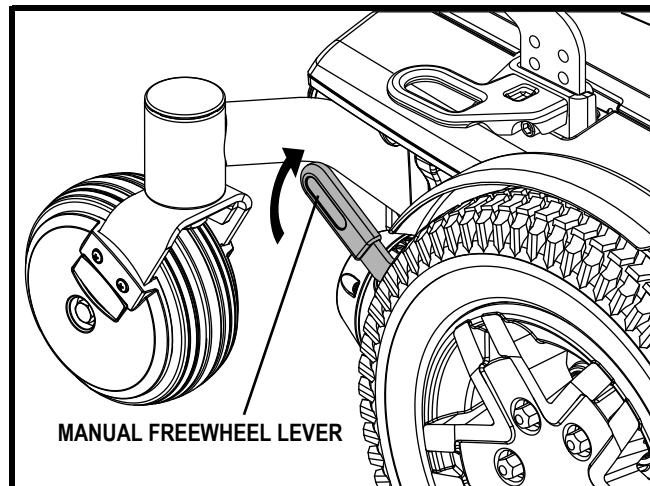

Figure 5. Drive Mode (Drive Engaged)
2. Pull up both manual freewheel levers for drive mode (drive motor engaged). See **figure 5**.